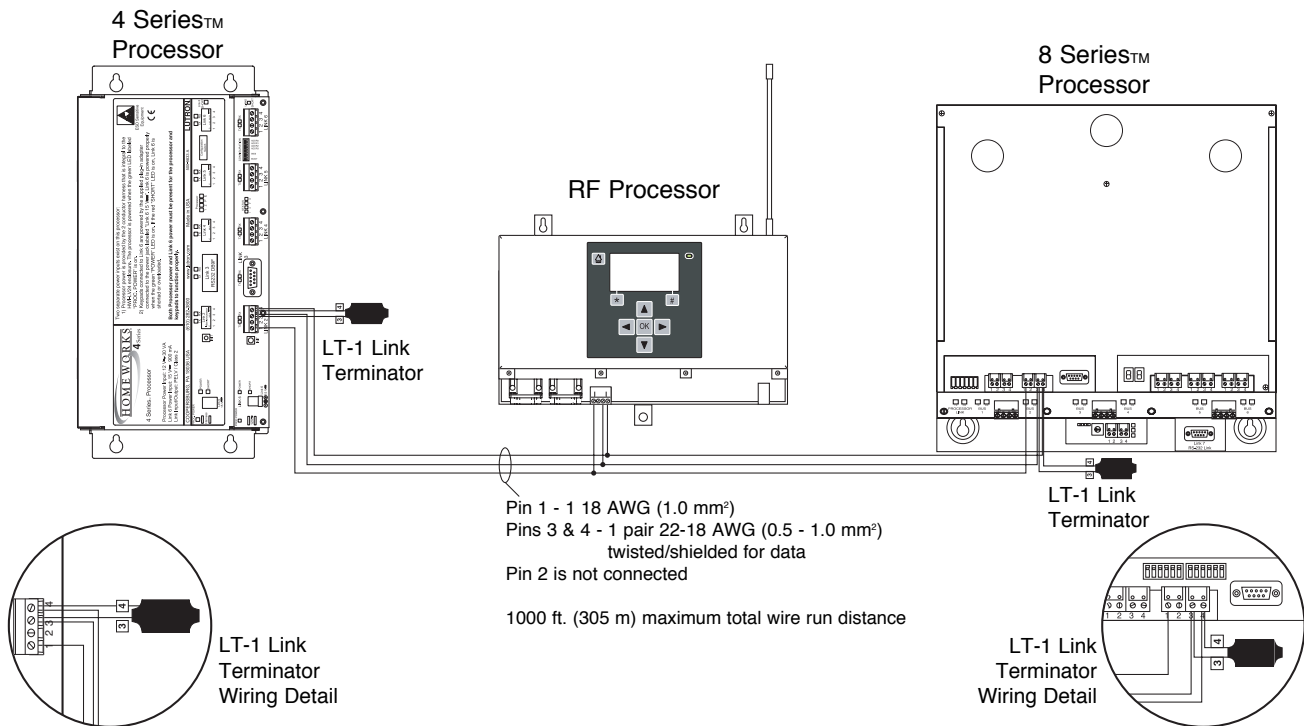

Figure 5 - Daisy Chained HomeWorks® Processors
4. **Connect Dimmer Hub links:** If HWI-H48 boards are to be controlled by this processor, the communication link to those boards should be connected to the Link 4 terminal block. Do not connect terminal 2 to an HWI-H48. If the H48 Link has a cable length of 50 ft. (15 m) or more, LT-1 link terminators must be installed across MUX and MUX (terminals 3 and 4) at both ends of the link. Refer to HWI-H48 instructions (see Figure 5, page 4).
5. **Connect Inter-processor Link (multiple processor installations only):** The Inter-processor Link is used for communication between HomeWorks Processors. Connect control wiring to the Inter-processor Link (Link 2), if required. Do not connect terminal 2 (see Figure 5, page 4). If this processor is to be the first or last processor in the daisy chain, attach one of the LT-1 link terminators provided across the MUX and MUX (terminals 3 and 4—see Figure 5, page 3). If LT-1 terminators are unavailable, a 1/2 W resistor between 100 and 150 Ohms may be placed across terminals 3 and 4 to provide termination.